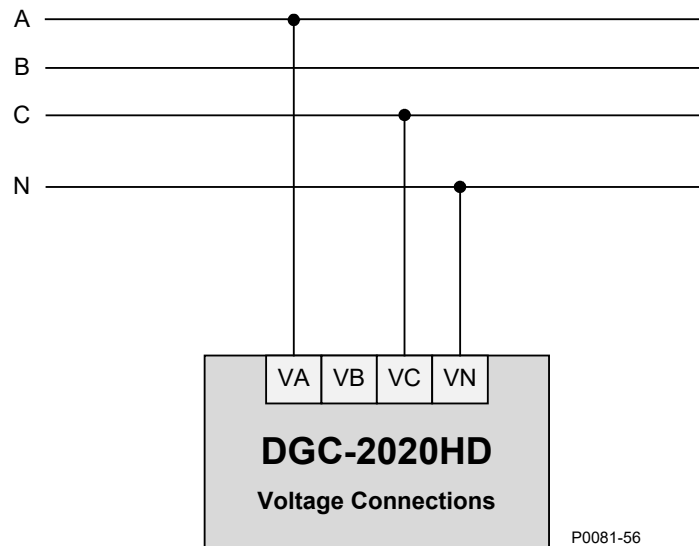

Figure 4-5. Single-Phase A-C Connections
- Single-phase A-C Figure 4-5
Although three-phase wye sensing connections are shown in the breaker control diagrams, other bus voltage sensing configurations (figures Figure 4-2 through Figure 4-5) may be used instead.
Figure 4-5 illustrates typical single-phase A-C connections for all DGC-2020HD bus voltage sensing connections: Generator, Bus 1, and Bus 2. Use the terminal numbers listed below for connecting the desired bus type. Refer to the *Terminals and Connectors* chapter for rear panel terminal numbering.